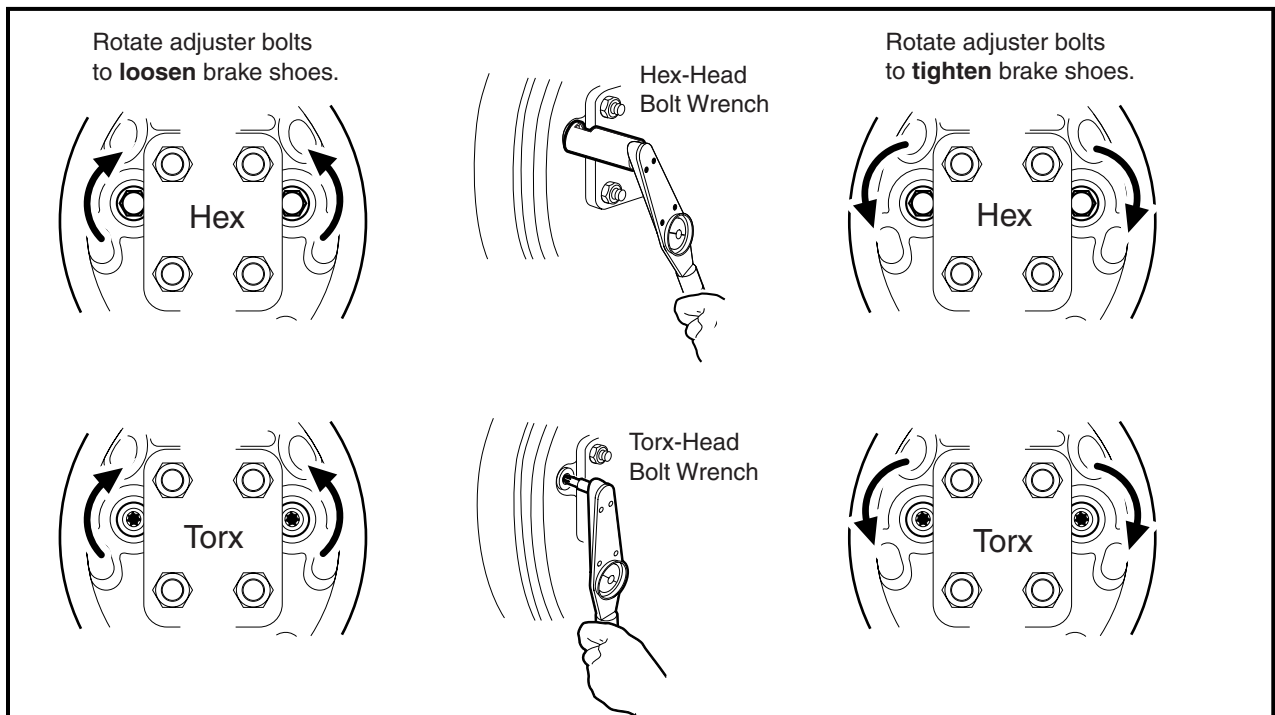

Figure 6-3 Loosen or Tighten Brake Adjusters
- 5.2. Use a torque wrench and a Torx #T-27 driver, or hydraulic brake adjuster (CCI P/N 102169401), and gently rotate the adjuster bolts to increase the clearance between the brake shoe lining and the brake drum (**Figure 6-3, Page 6-7**). **See following NOTE.**
- 4.2. Use a torque wrench and a Torx #T-27 driver, or hydraulic brake adjuster (CCI P/N 102169401), and gently rotate the adjuster bolts (**Figure 6-3, Page 6-7**). See following **NOTE**.